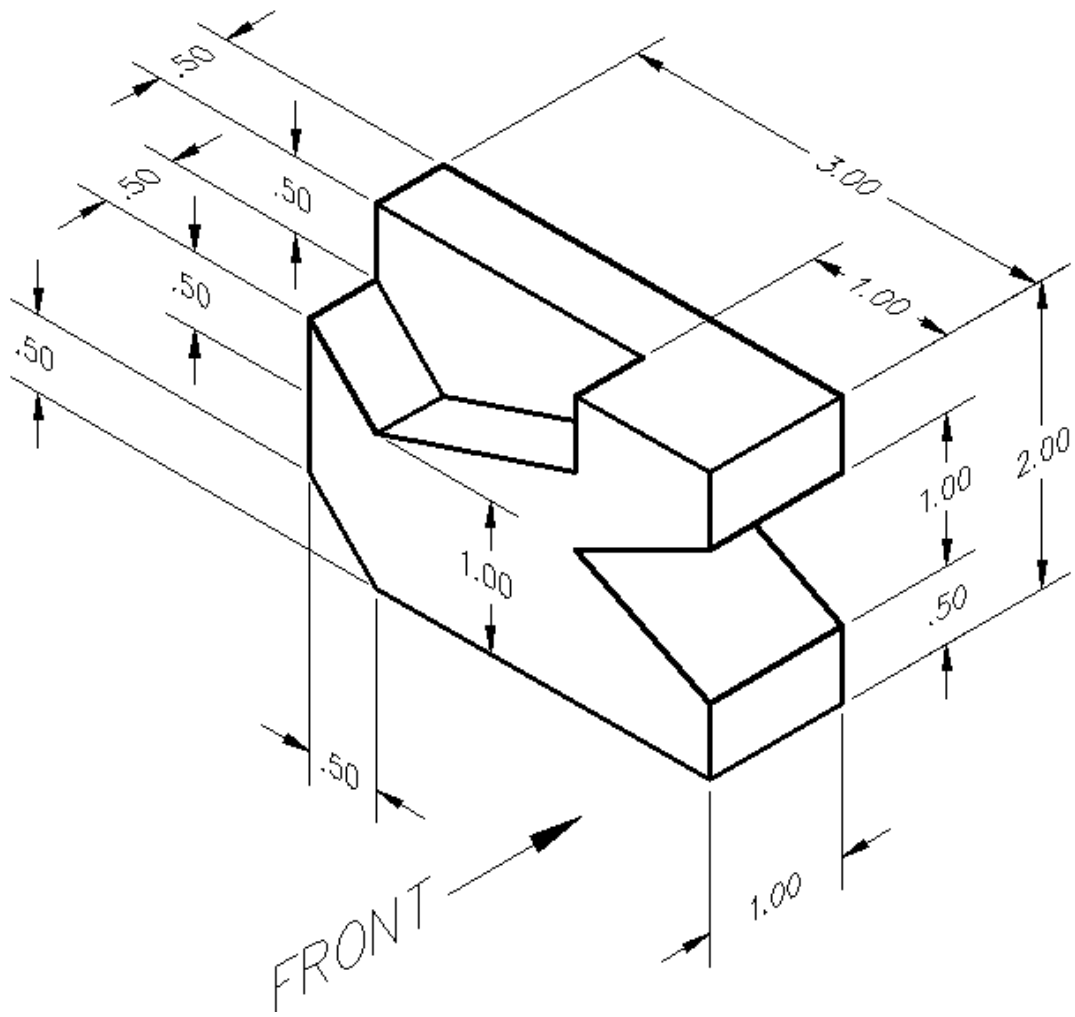

Figure 18
2. Draw the figure 18 with the given dimensions. Follow the steps below to add the dimensions as shown in Figure 19.